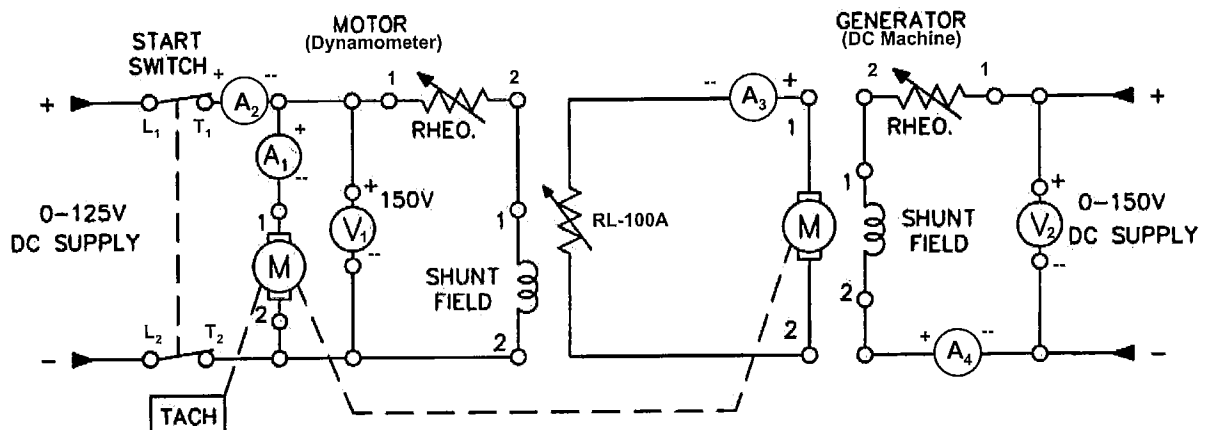

Figure 1: Motor and generator connections
4. Connect the motor as shown in Figure 1. Refer to Appendix A for schematic of motor. Turn the motor's field rheostat knob (black dial located on top of the dynamometer) fully counterclockwise to its minimum resistance position.
5. Connect the generator as shown in Figure 1. Refer to Appendix B for schematic of generator. Note that this is a separately excited generator connection. Turn the generator's field rheostat knob (black dial located on top of the DC machine) fully counterclockwise to its minimum resistance position.